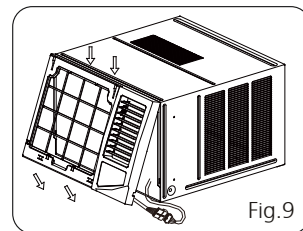

Fig.9
1. Hook the upper edge of the frame. Then connect the coupler plugs and make sure not to interfere with the temperature sensor cable(see Fig.9).